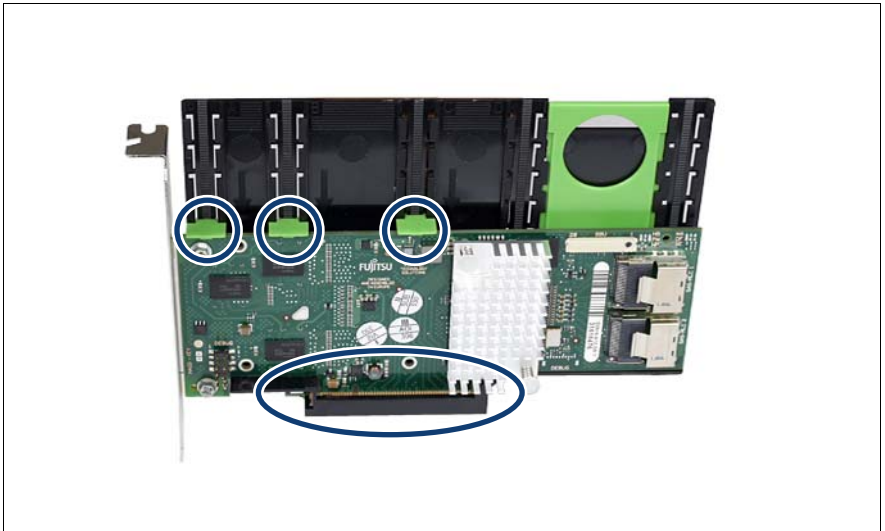

Figure 27: Inserting the new expansion card in the removal tool
- ▶ Insert the green engaging hooks (see circles in figure 27 on page 107) in the rods and push them down until they engage in the upper edge of the expansion card.